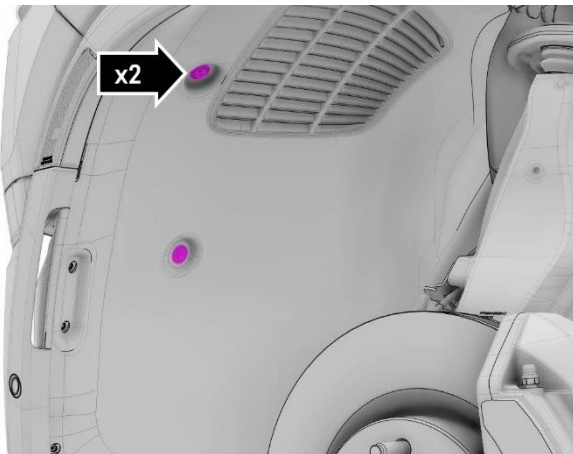

Figure 8
1. Remove the 2 bolts from the wheel liner. (Figure 8)